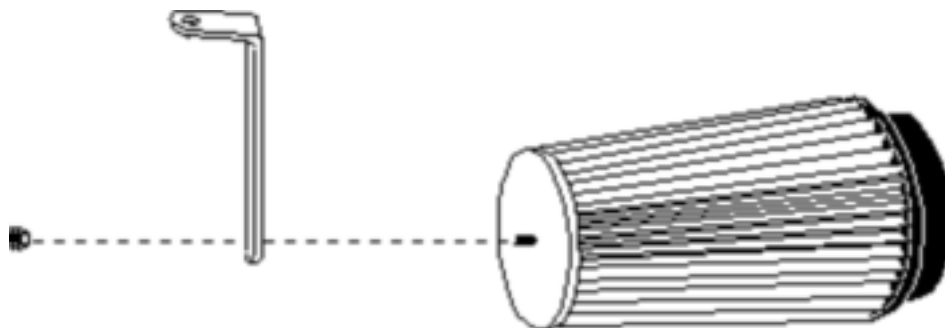

fig. 1
- 4) Bolt the bracket onto the air filter. (see fig. 1)